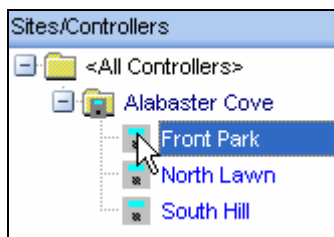

Figure 29.0.3
2. Next click on a controller from your controller list to highlight it (Figure 29.0.3).